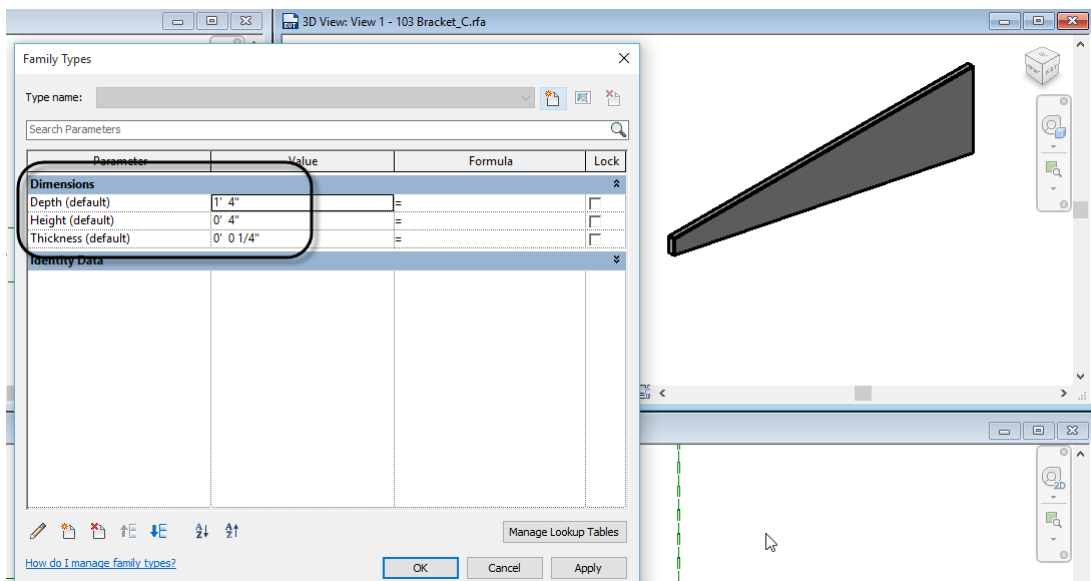

Figure 21
2. Change the Thickness to: $\frac{1}{4}$ ", the Height to: 4". Leave the Depth at: 1'-4" and then click OK (see Figure 21).